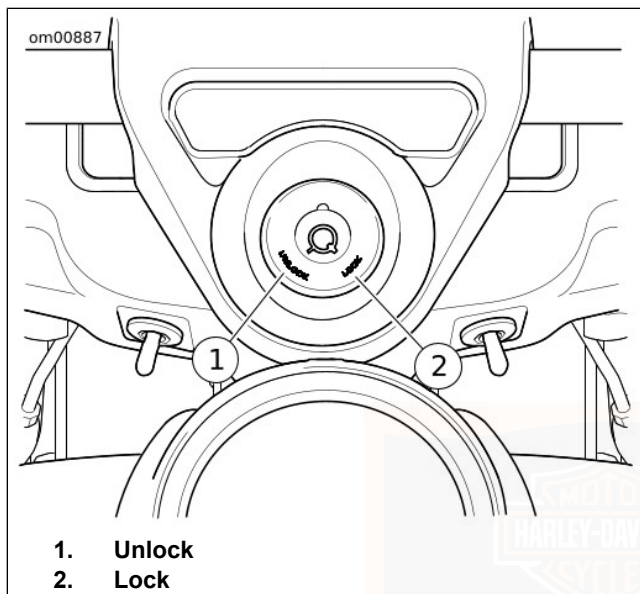

Figure 20. Fork Lock: Models Without Fairing
Without fairing: See Figure 20. The fork lock is at the top of the steering head, behind the headlamp nacelle and inset in the handlebar clamp shroud.
2. See Figure 20. Insert key and turn key counterclockwise to LOCK position. Remove key.